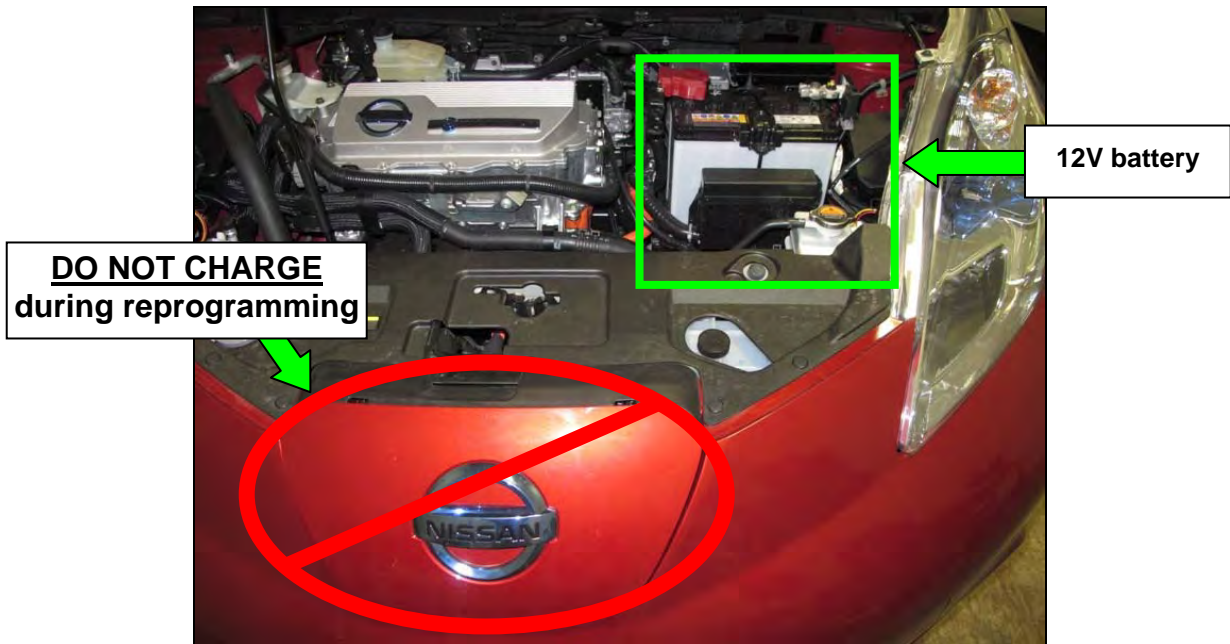

Figure 47
47. If the screen in Figure 47 appears, select **Other Operation**.